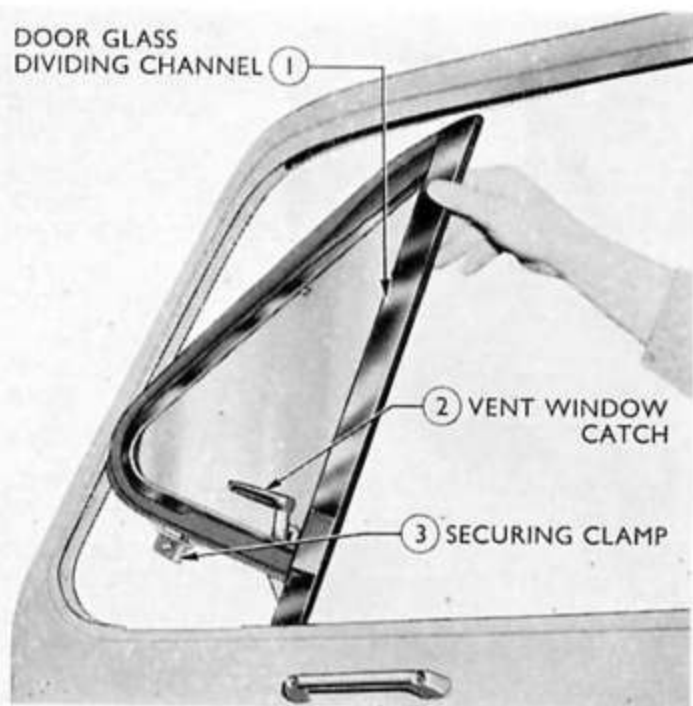

Fig. 6
4. Remove the vent window assembly by pulling the top edge towards the rear of the door and withdrawing the assembly through the window aperture (see Fig. 6).
2. Remove the vent window lower pivot stud clamp bolt and prise off the clamp (see Fig. 6).